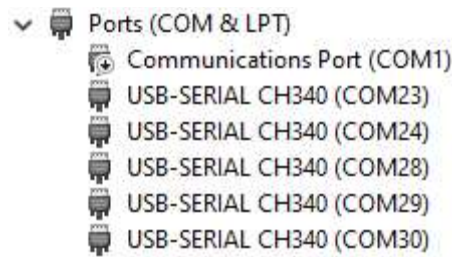

Figure 1.1 Ports (COM & LPT) section in Windows Device Manager
- Expand the *Ports (COM & LPT)* section  Ports (COM & LPT) , check the number of serial ports available. As shown in *Figure 1.1*, when all five modules are plugged into the computer, the device manager should show at least 5 serial ports. If any modules have not appeared as devices, unplug that module and replug it.